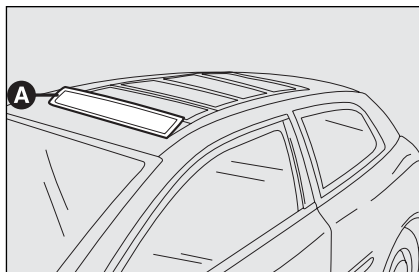

fig. 78
- ☐ First knob click: rotary movement of the first blade until reaching position **A-fig. 78**; the curtain slides lined up to the second blade.